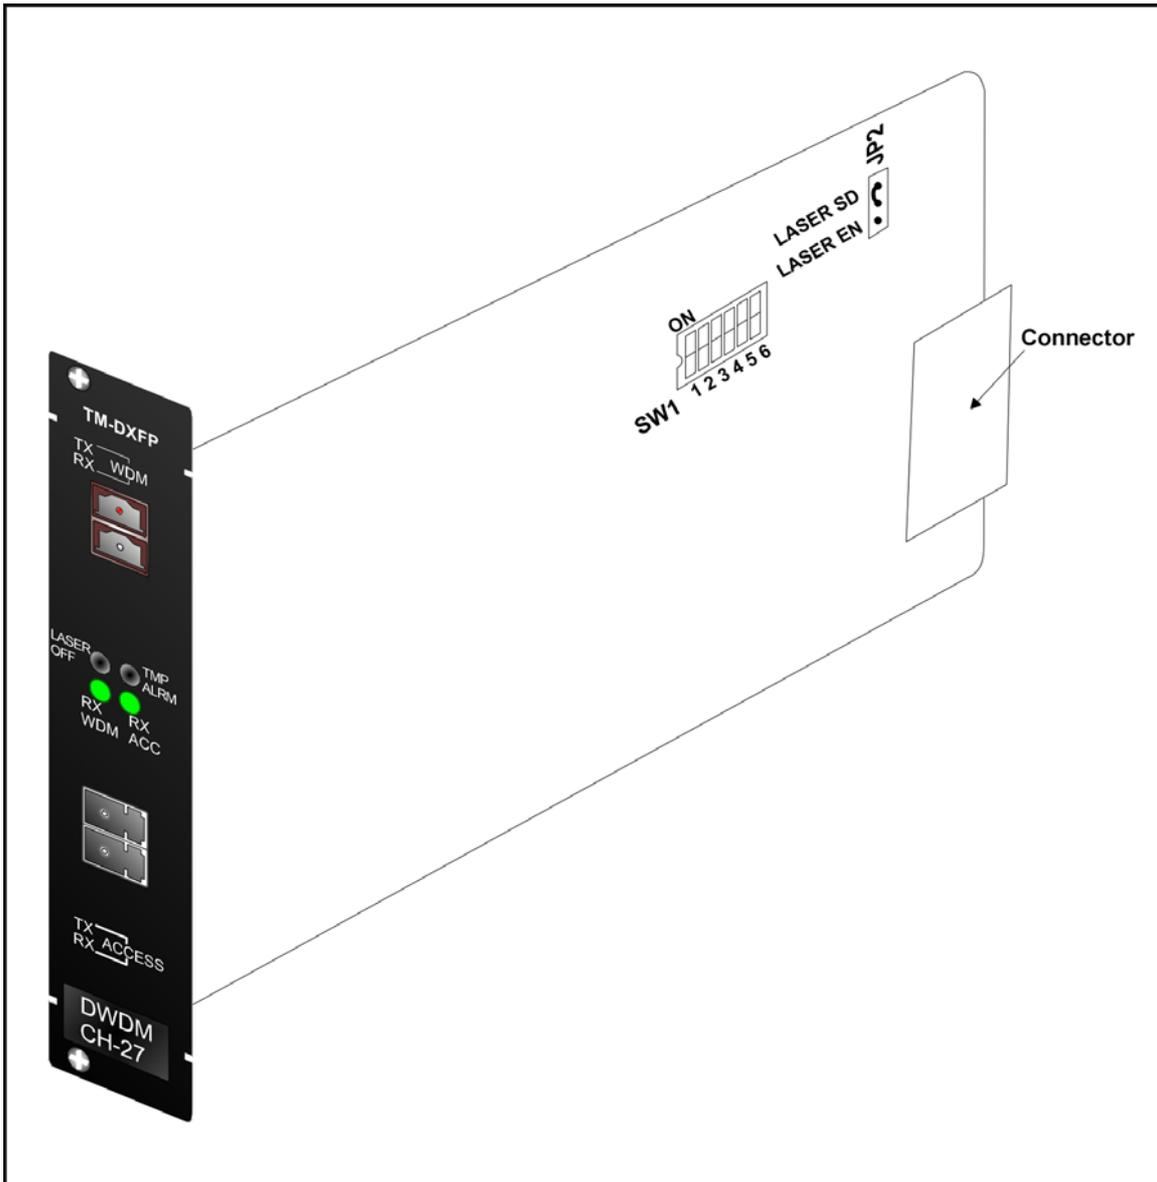

Figure 38: DIP Switch Location on TM-DXFP Transponder Module
1. With the aid of *Figure 38*, locate Jumper **JP6** on the TM-DXFP Transponder module and position it using *Table 14*.
- With the aid of *Figure 38*, locate DIP switch **SW1** on the TM-DXFP Transponder module and set it using *Table 15*.